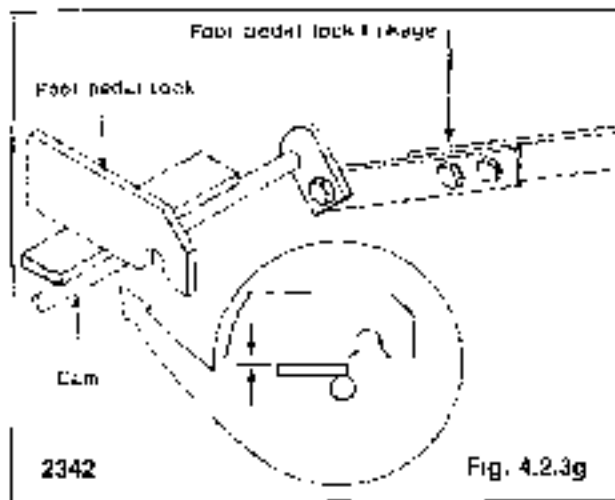

Fig. 4.2.3g
8. Install the pedal lock linkage to the foot pedal shaft (Fig. 4.2.3g).
9. Ensure the cam which raises the foot pedal locking arms does not touch the locking arms (Fig. 4.2.3g).